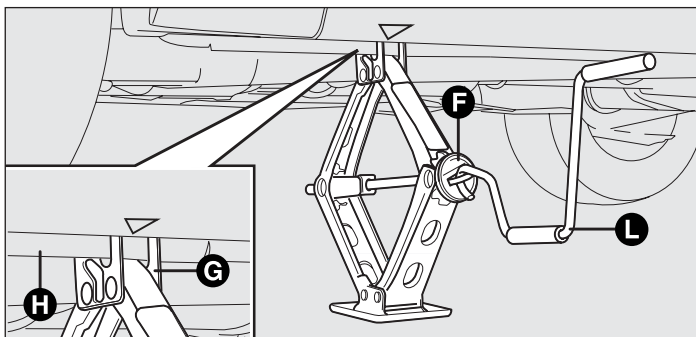

fig. 147
- ☐ operate device F-fig. 147 to extend the jack until the top of the jack G fits correctly into jacking point H;
- ☐ turn the jack handle L-fig. 147 to lower the car, and remove the jack;